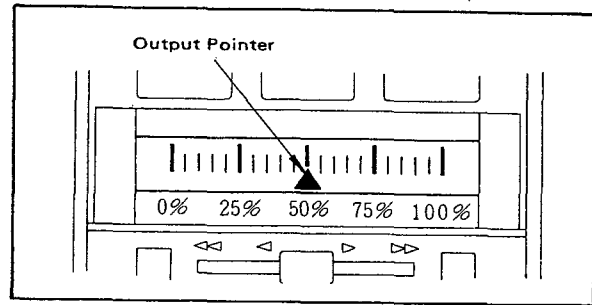

Figure 6-4. Output Indicator Major Scale Graduation.
- (3) When the reading is outside of tolerance, adjust the zero adjustment screw so the output pointer points to the major scale graduation in the center of the scale. (Figure 6-4, 5).
- (4) Next, set the output pointer at the leftmost major scale graduation, at the second major scale graduation from the left, at the second major scale graduation from the right, and at the rightmost major scale graduation. Verify that the ammeter reads 4 mA, 8 mA, 16 mA, and 20 mA respectively. (The tolerance is  $\pm 2.5\%$ .)
- (5) If the tolerance is exceeded in (4), return to (2) and make fine adjustments with the readings until all readings fall within the tolerance.
- (6) Repeat (4) and (5) until the readings at all points are within tolerance.